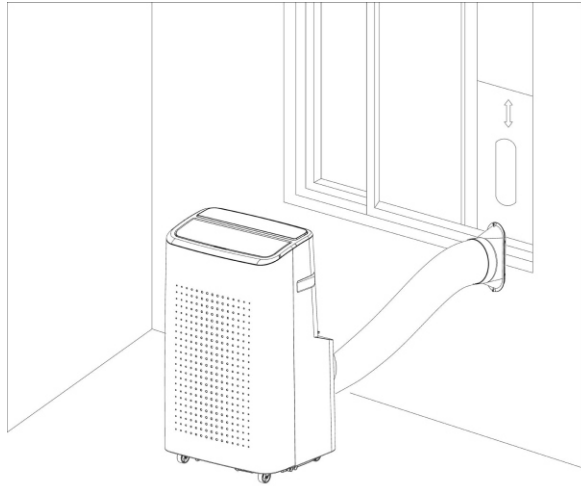
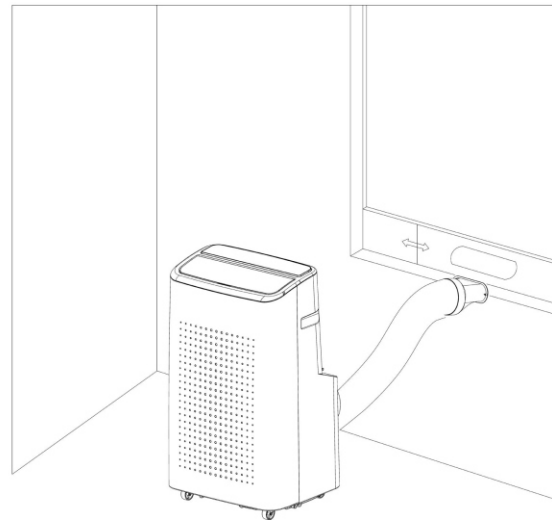

Figure 5
Figure 6
- 2) Elongate the heat pipe and snap the flat end of the heat pipe joints into the elliptical hole of the window sealing plate assembly (as shown in Figure 5 and Figure 6) .